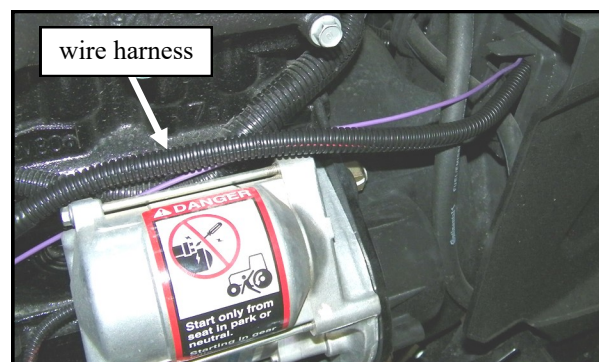

Fig. 2.4 (Wire Harness - Left Side of Engine Bay)
2.4 Loosely attach the wires down the left side of the engine bay and place them inside the left side panel as shown. See Fig. 2.4.